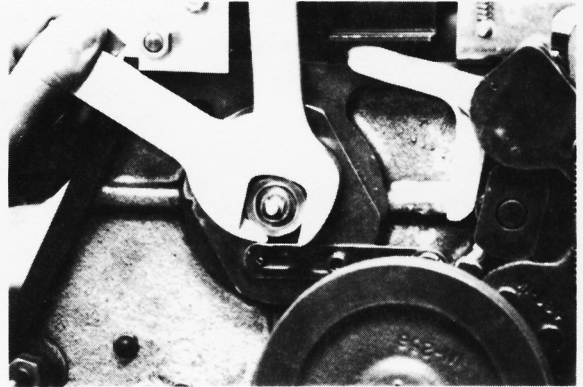

Fig. 2
7. Using the special wrench supplied in the kit, hold the inside plate cylinder shaft lock nut in position and remove outer locking nut. (Fig. 2)